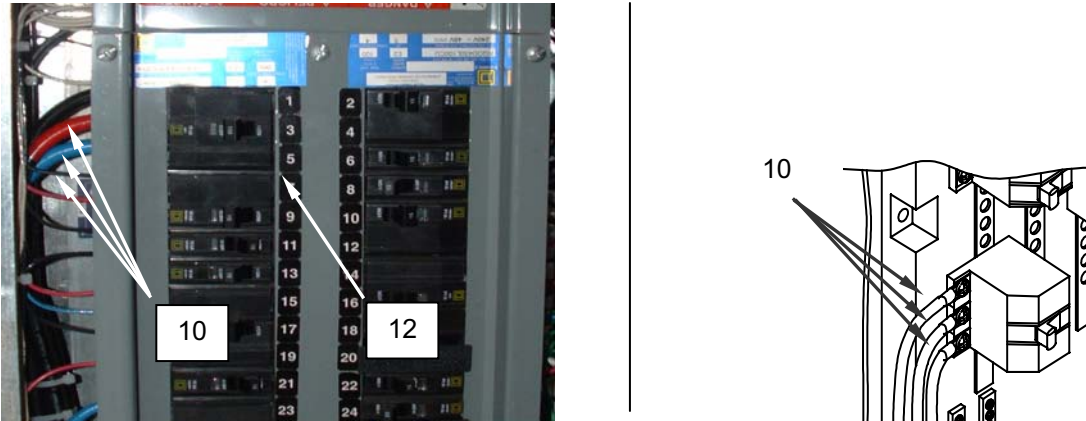

Figure 5. Replace the Power Input Receptacle.
10. Connect the wires (**Figure 5, Item 10**) as tagged to the main circuit breaker (**Figure 5, Item 12**), if replacing the main power input connector, or to the dryer circuit breaker if replacing one of the dryer circuit breakers.